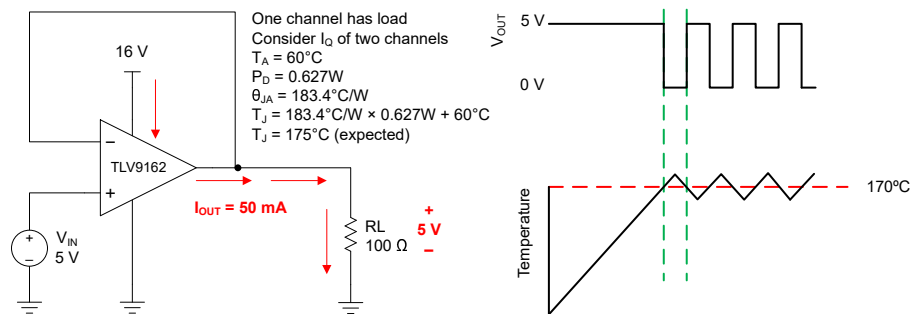

Figure 6-4. Thermal Protection
The internal power dissipation of any amplifier causes its internal (junction) temperature to rise. This phenomenon is called *self heating*. The absolute maximum junction temperature of the TLV916x is 150°C. Exceeding this temperature causes damage to the device. The TLV916x has a thermal protection feature that reduces damage from self heating. The protection works by monitoring the temperature of the device and turning off the op amp output drive for temperatures above 170°C. Figure 6-4 shows an application example for the TLV9162 that has significant self heating because of its power dissipation (0.627 W). In this example, both channels have a quiescent power dissipation while one of the channels has a significant load. Thermal calculations indicate that for an ambient temperature of 60°C, the device junction temperature reaches 175°C. The actual device, however, turns off the output drive to recover towards a safe junction temperature. Figure 6-4 shows how the circuit behaves during thermal protection. During normal operation, the device acts as a buffer so the output is 5V. When self heating causes the device junction temperature to increase above the internal limit, the thermal protection forces the output to a high-impedance state and the output is pulled to ground through resistor  $R_L$ . If the condition that caused excessive power dissipation is not removed, the amplifier will oscillate between a shutdown and enabled state until the output fault is corrected. Please note that thermal performance can vary greatly depending on the package selected and the PCB layout design. This example uses the thermal performance of the TSSOP (8) package.